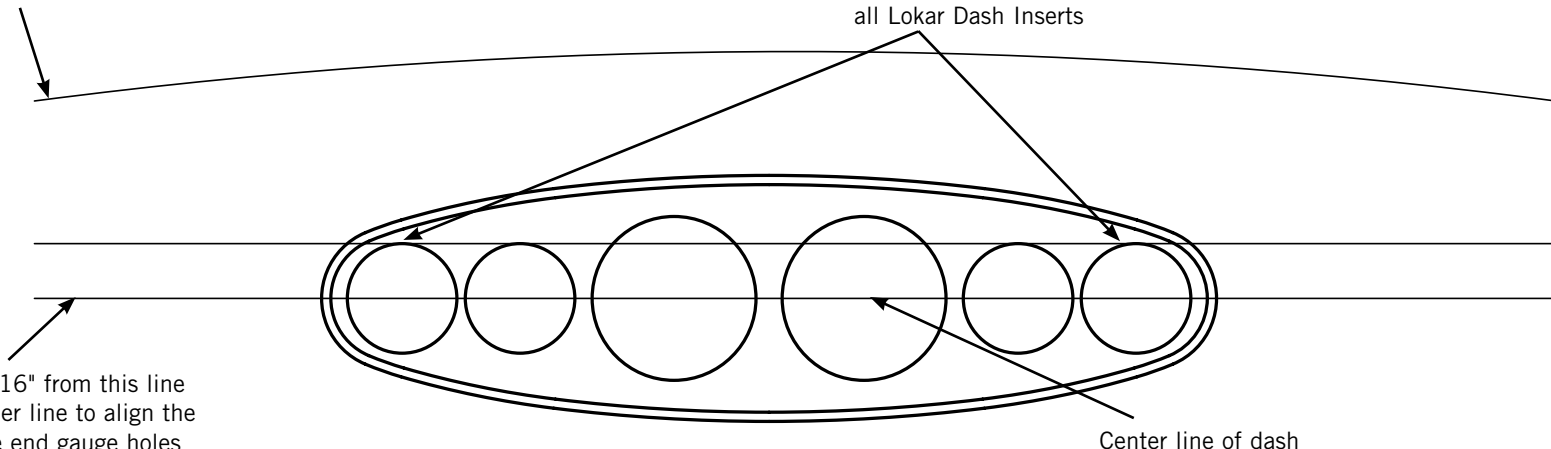

Fig. 1
Step 2: Draw a horizontal line across the dash that will represent the center of the 2 end gauges. Now draw a second line 13/16" above and parallel to that line. (**Fig. 1**) This line will be the top of the 2 end gauge holes in the insert, one at each end. Now your insert is level. Holding the dash insert in place (**Fig. 1**), scribe a line around the rear edge of the insert.